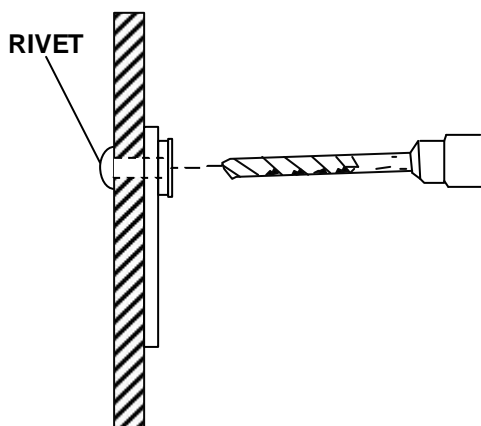

Fig. 4
- Bore out the rivets using a drill bit slightly larger in diameter than the rivet, see Figure. 4,